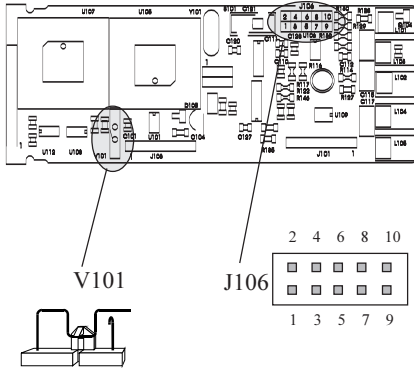

Fig. 13
- 2) Set the dip switch V101 to the open condition (see fig. 13).